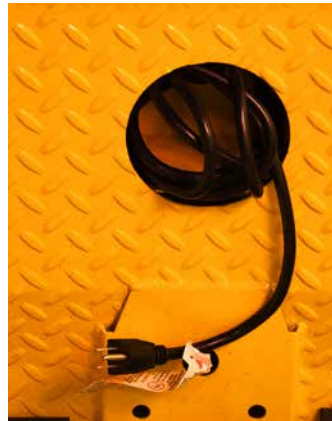

Figure 3: The AC cord for charging the batteries. Simply extend the cord and plug it in to an appropriate receptacle.
- Connect the vehicle's AC cord (Figure 3) to the outlet.